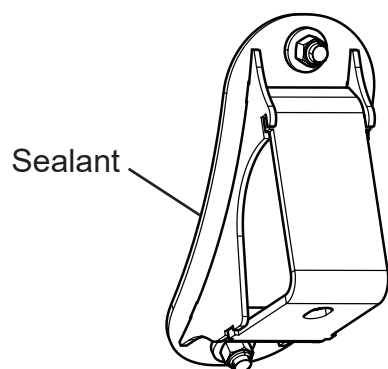

Figure 4
16. Apply a bead of sealant around the perimeter of the mounting foot backing plate, see Figure 4.